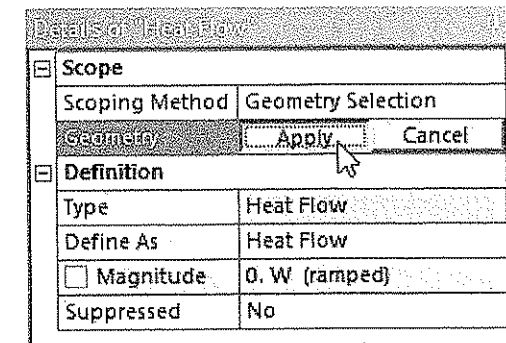

Figure 11-55 Choosing the **Apply** button from the **Details of “Heat Flow”** window
10. Choose the **Apply** button in the **Geometry** selection box, refer to Figure 11-55; the color of the bottom face is changed to purple indicating that Heat Flow has been applied to this face.